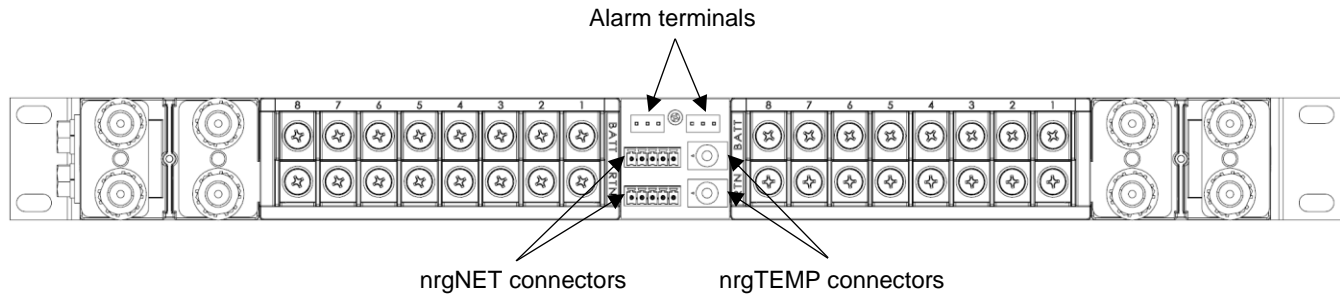

Fig. 2-13: nrg300CB08 Alarm Terminals
31. The alarm terminals, nrgTEMP connectors, and nrgNET connectors are located in the rear center of the panel. Refer to Fig. 2-13.